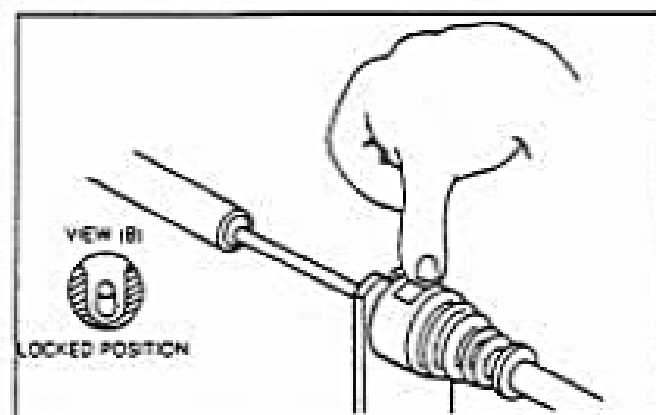

FIG. 5
7. While holding outer cable, push down firmly on cable lock until it locks in place. (Refer Fig. 5).